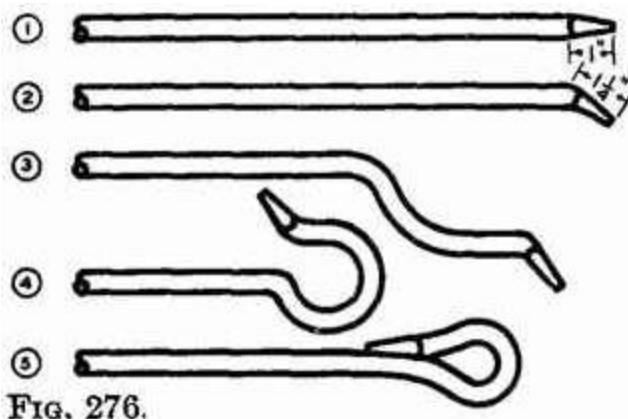

Fig. 276.-Steps in scarfing and preparing to weld an eye on the end of a rod.
**317. Welding an Eyebolt.**-To make a welded eyebolt, a short, blunt, square-pointed scarf is made as shown in Fig. 276. The welding heat is taken in the usual manner, having the scarfed end down in the fire just before removing and hammering. By doing the hammering over the horn instead of the flat surface of the anvil, there will be less danger of marring and drawing the stem of the bolt next to the eye and thus making it weak at this point.